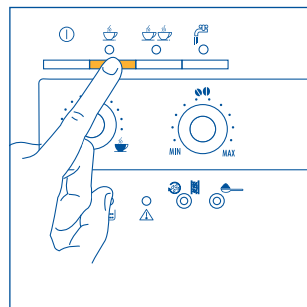
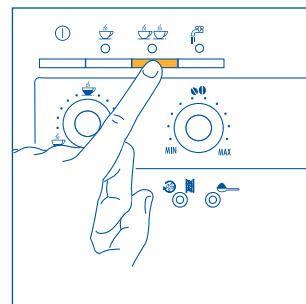

Fig. 12
Fig. 13
- 5) Press the ☕ button (Fig. 12) to make one cup of coffee or the ☕☕ button (Fig. 13) to make 2 coffees. *At this point the machine grinds the beans, runs a short pre-infusion cycle, a pause and then completes the delivery.*
NOTE 4: while the machine is making the coffee, the delivery can be stopped at any time by pressing the ☕ button (Fig. 12) or ☕☕ button (Fig. 13), as previously selected.
NOTE 5: as soon as delivery is complete, to increase the quantity of coffee, simply press and hold the ☕ button (Fig. 12) or ☕☕ button (Fig. 13), as previously selected, until the desired quantity is reached (this operation must be performed within 3 seconds from when coffee delivery from the spouts ceases).